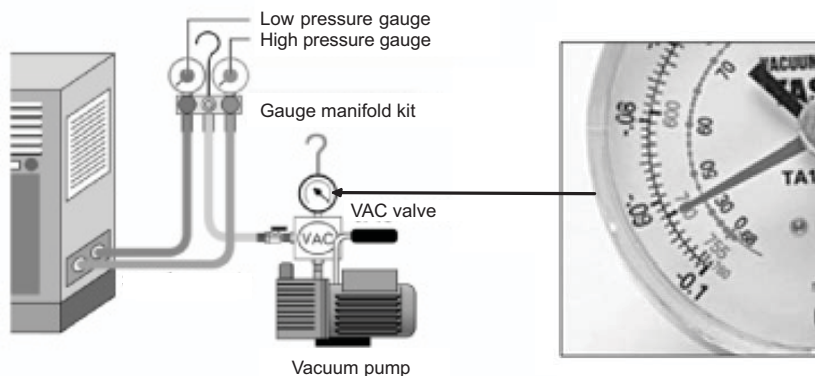

Figure 3-1-5
- ◆ Connect the manifold gauge to the vacuum pump, with the low-pressure end linked to the gas valve and the high-pressure linked to the liquid valve. (As shown in Figure 3-1-5)